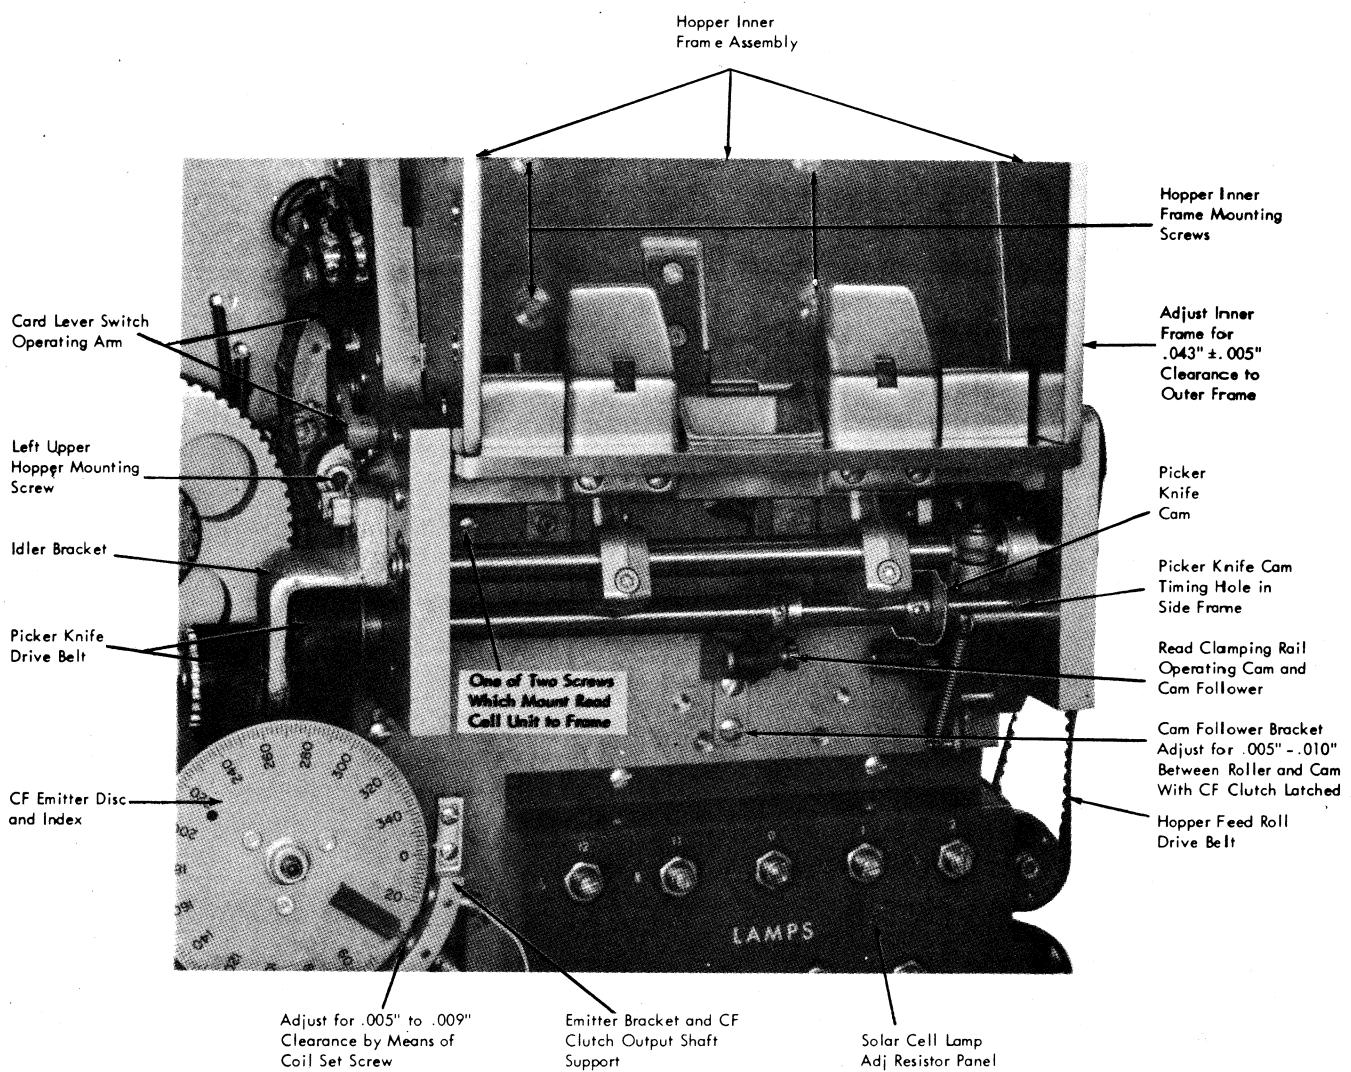

Figure 4-6. Hopper and Pickerknife Camshaft
2. Step 2 is for machines with belt driven picker knives (see note following Drive Mechanism and Rear Casting Assembly). Remove pickerknife idler bracket from left hopper side frame. (See Figure 4-6.)
1. Latch clutch. Loosen CF clutch index disk on front of CF clutch output shaft. Rotate pickerknife camshaft until pickerknife cam timing hole is aligned to timing hole in hopper side casting (Figure 4-6). Place timing pin through aligned holes.
- a. $.043" \pm .005"$ lateral spacing between hopper inner frame and outer frame. See Figure 4-6.
3. With card feed clutch latched, adjust clamping rail cam follower bracket for .005" to .010" clearance between cam follower and cam (Figure 4-6).